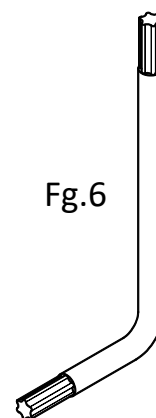

Fig.6
1. Take the supplied L-shaped key (3MECL0001) specific for TORX safety screws (Fig.6) and unscrew the front part;
1. Take the supplied L-shaped key (3MECL0001) for TORX screws (Fig.6) and unscrew the sides of the casing as shown in Fig.8.